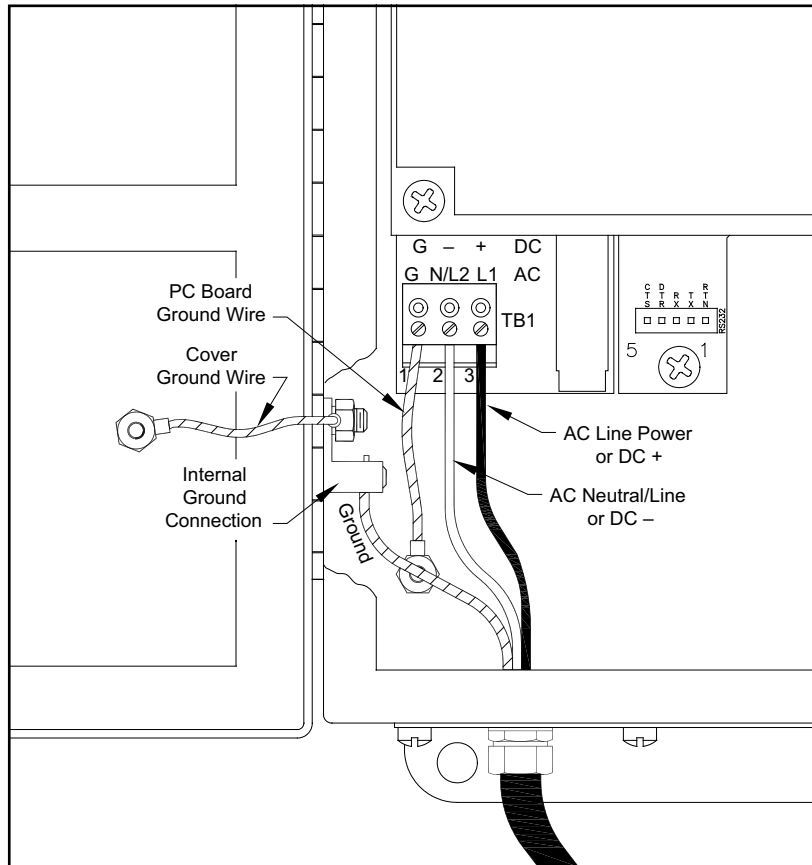

Figure 3: Wiring the Line Power
Refer to Figure 3 on page 7 or Figure 10 on page 18 to locate terminal block **TBI** and connect the line power as follows:
3. Connect the ground lead to the internal ground connection located on the side panel of the enclosure (see Figure 3 below).
4. Connect the neutral or line lead (or the negative – DC power lead) to **TB1-2**, and the line power lead (or the positive + DC power lead) to TB1-3, as shown in *Figure 3* below.